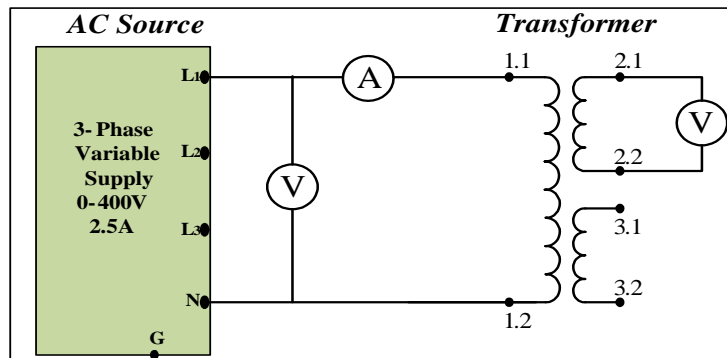

Figure 1 No load test voltage measurements
1. Consider the circuit shown in Fig. 1 then fix the source voltage at 224 V line to neutral.
2. Place the ammeter and voltmeters at appropriate position in Fig. 1 circuit. Calculate the voltages, current and the apparent power then enter the calculated data in Table 1.